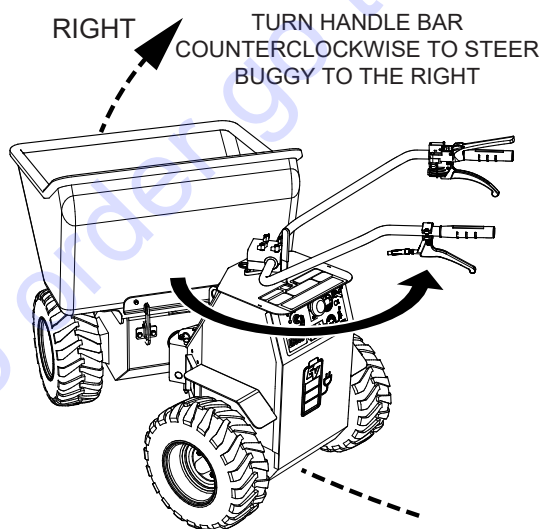

Figure 11. Steering the Buggy (CCW-Right)
- To turn right (Figure 11) when traveling in the forward direction, turn the handle bar in the counterclockwise direction.